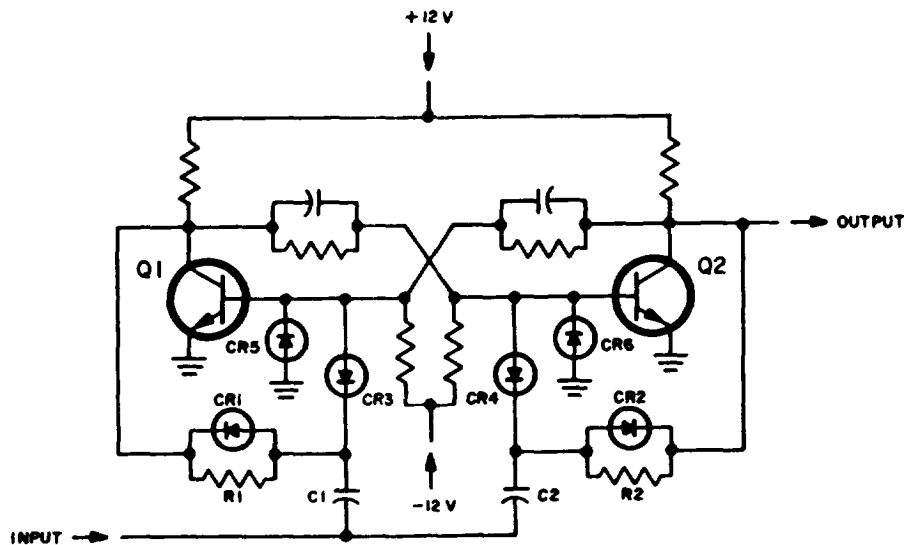

Figure 4-20 Typical Low-Speed Count Decade Flip-Flop, Simplified Schematic Diagram
Each count decade consists of four bi-stable multivibrators (flip-flops) coupled together in such a way so as to produce one output pulse for each ten input pulses. Figure 4-20 shows a typical flip-flop used in the 10-mc and 300-kc counting rate decades. Reference designators assigned in figure 4-20 apply to figure 4-20 only.
c. USEFUL ILLUSTRATIONS. - Illustrations useful in maintaining this functional section are: figures 4-20, 4-21, 4-2, 4-23, 4-24, 5-48, 5-49, 5-50, 5-72, 5-73, 5-74, 5-75, and 5-76.